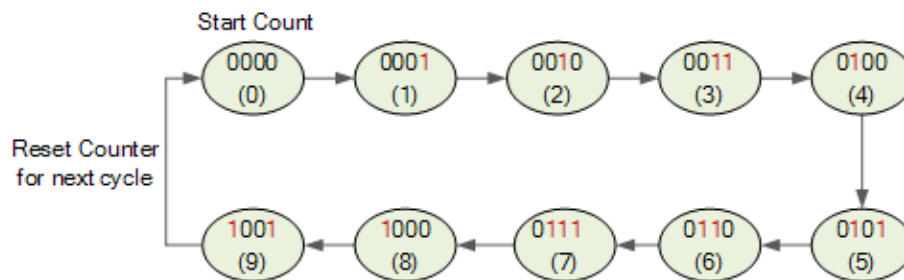

Figure 3: BCD Decade Counter FSM.
- **BCD Decade Counter** A binary coded decimal (BCD) is a serial digital counter that counts in a sequence of ten digits \(from 0: 9\) and then returns back to zero after the count of nine. When the Decade counter is at REST, the count is equal to 0000. A decade Obviously to count up to a binary value of nine, the counter must have at least four flip-flops within its chain to represent each decimal digit as shown in Figure 3.